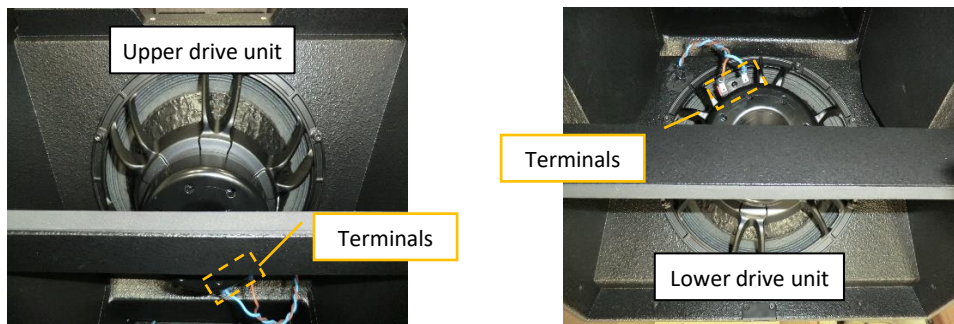

Fig.5-2-1-C
- (4) Connect the cables to the two terminals. Ensure the colour of terminals and cables. (Fig.5-2-1-D)